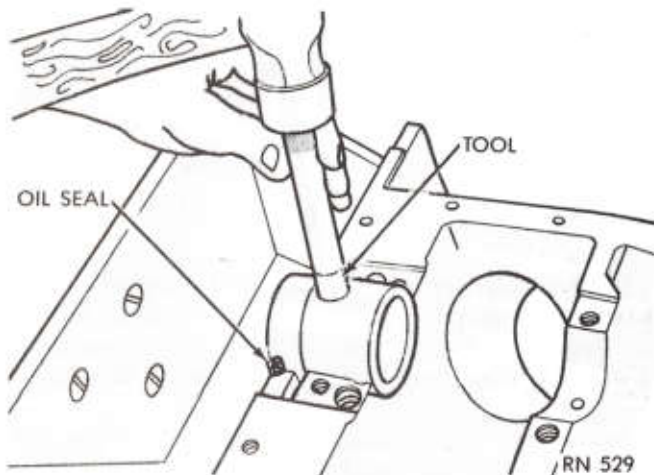

Fig. 49—Installing Upper (and Lower) Oil Seal with Tool C-3511
- (1) Install a new rear bearing oil seal in the cylinder block so that both ends protrude.
- (2) Using Tool C-3511, tap seal down into position until tool is seated in bearing bore (Fig. 49).